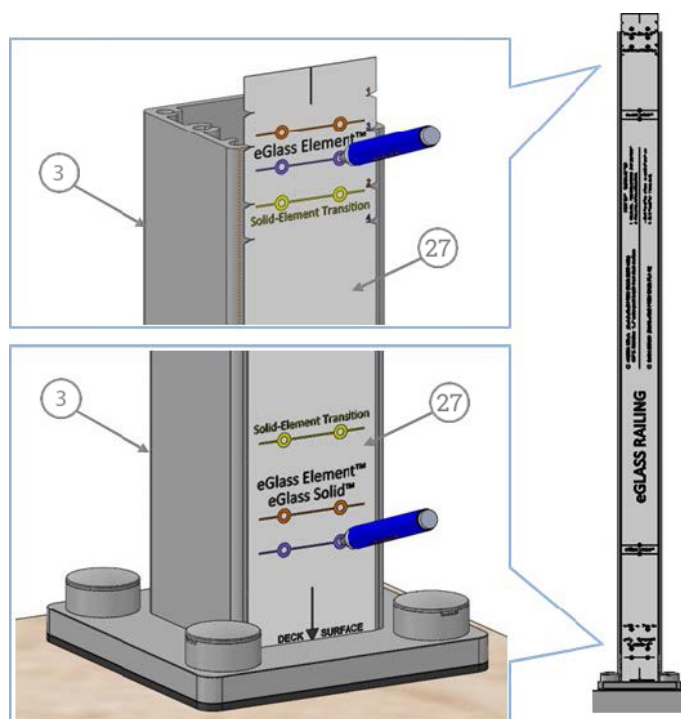

Fig 12
- Place the drill guide (27) on the post. Place the end that says "DECK SURFACE" as shown in Figure 12. Tape the Drill Guide to the post using painter's tape.